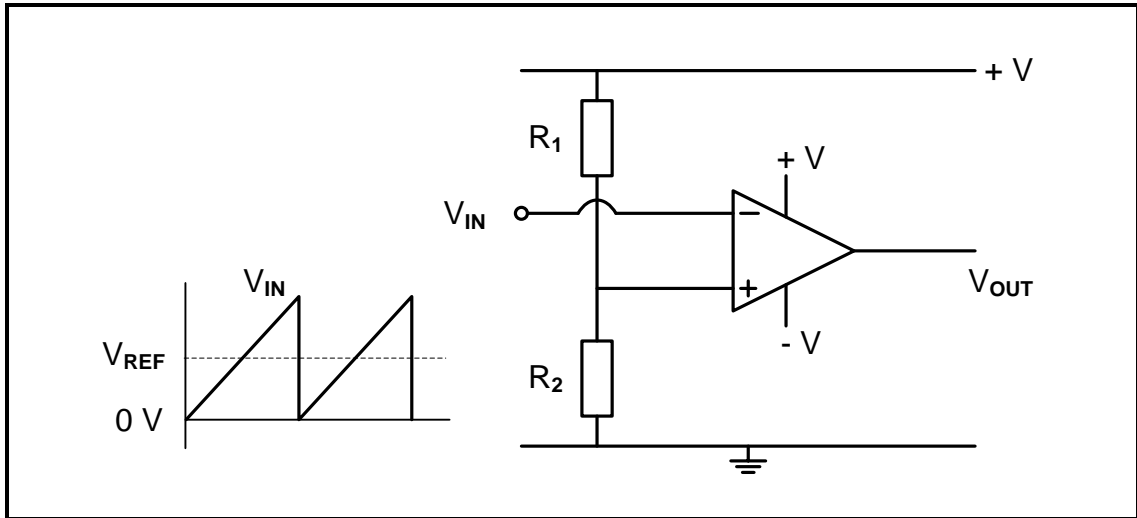

FIGURE 2.6: OP-AMP CIRCUIT
2.6 Refer to FIGURE 2.6 below and answer the questions that follow.
- 2.6.1 Identify the op-amp circuit in FIGURE 2.6. (2)